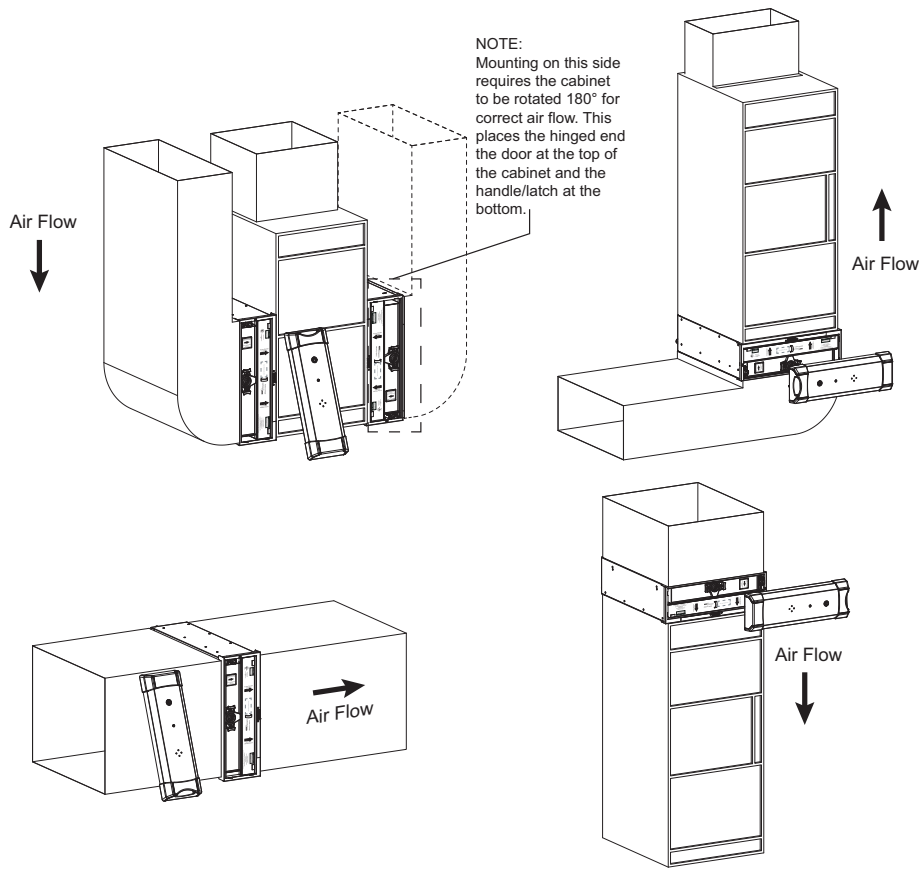

Fig. 3 - Air Purifier Cabinet Orientation
1. Identify a mounting orientation for the Air Purifier in the return air duct (see Figures 3 and 4).
- Position the cabinet between the furnace and return air duct (see Figures 3, 4, and 5). A transition duct may be required. On some furnaces, one or more screws may interfere with the ease of removal of the purifier door. In this case, replace the interfering screw(s) with pop rivet(s). Removing the screws without replacing them with pop rivets may have an adverse effect on air sealing or structural integrity of the furnace.